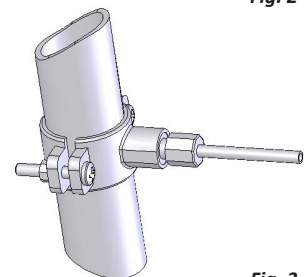

Fig. 3
3. Using the connector opening in the side of the drain saddle as a guide, drill a 3/8" hole through the wall of the drain pipe. (Fig. 3)
5. Tighten the saddle bolts evenly on both sides until the saddle grips the pipe snugly - do not overtighten. (Fig. 3)